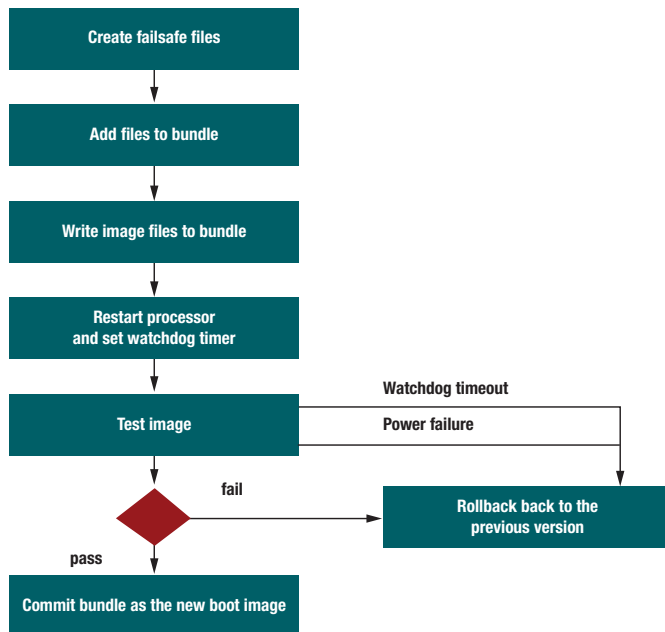

Figure 3. The Amazon FreeRTOS OTA update implementation leverages the bundle protection mechanism of the SimpleLink file system to test-run the new OTA image.
- **Reversion if the OTA image fails to boot successfully.** Once the OTA agent verifies the download of a valid firmware update, it uses SimpleLink file system APIs to securely store the image and signature information, activate the image for testing, and to set the update image as the default if the tests are passed. The secure bootloader for SimpleLink Wi-Fi devices allows the booting of only correctly signed images. The OTA update image must contain the OTA update agent, as a number of AWS IoT functions are tested when the new image boots up. This ensures that the IoT device can securely connect to the IoT service and accept future OTA updates. A hook at the end of the AWS connectivity test enables a developer to add their own device-specific tests. The OTA agent uses the SimpleLink Wi-Fi bundle protection feature (see Figure 3) to prevent a failed update that results in a bricked device. Bundle protection enables the “test booting” of the image and sets a flag directing the bootloader to boot the OTA image prior to resetting the MCU. The bootloader starts by resetting the flag to use the previous working image for the next boot and sets a watchdog timer to trigger after an appropriate period. If the boot of the new image fails the self-test, hangs or experiences a power failure, the bootloader will simply revert to the previous image on the next boot. At that point, the OTA agent can restart the update process again. If the boot passes the self-test, the update image will be set as the default going forward.